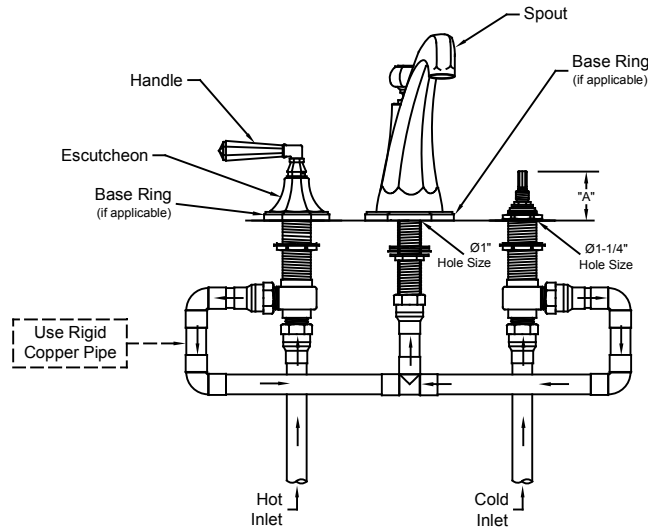

Fig. 1
-Install piping (not provided) to connect hot & cold valves to connector tee (see Fig. 1).